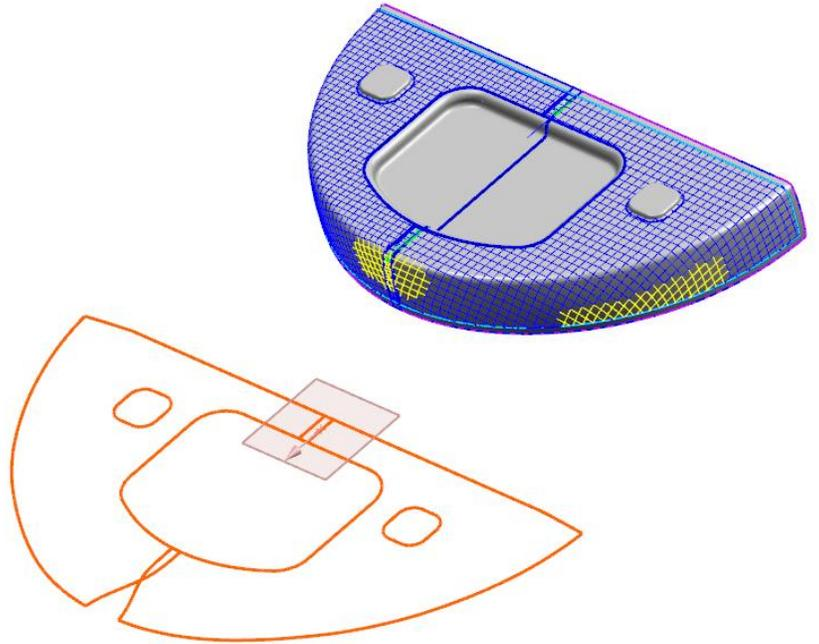

Figure 4–57
4. Run Net Producibility and create a Net Flat Pattern to display the results as shown in Figure 4–57.